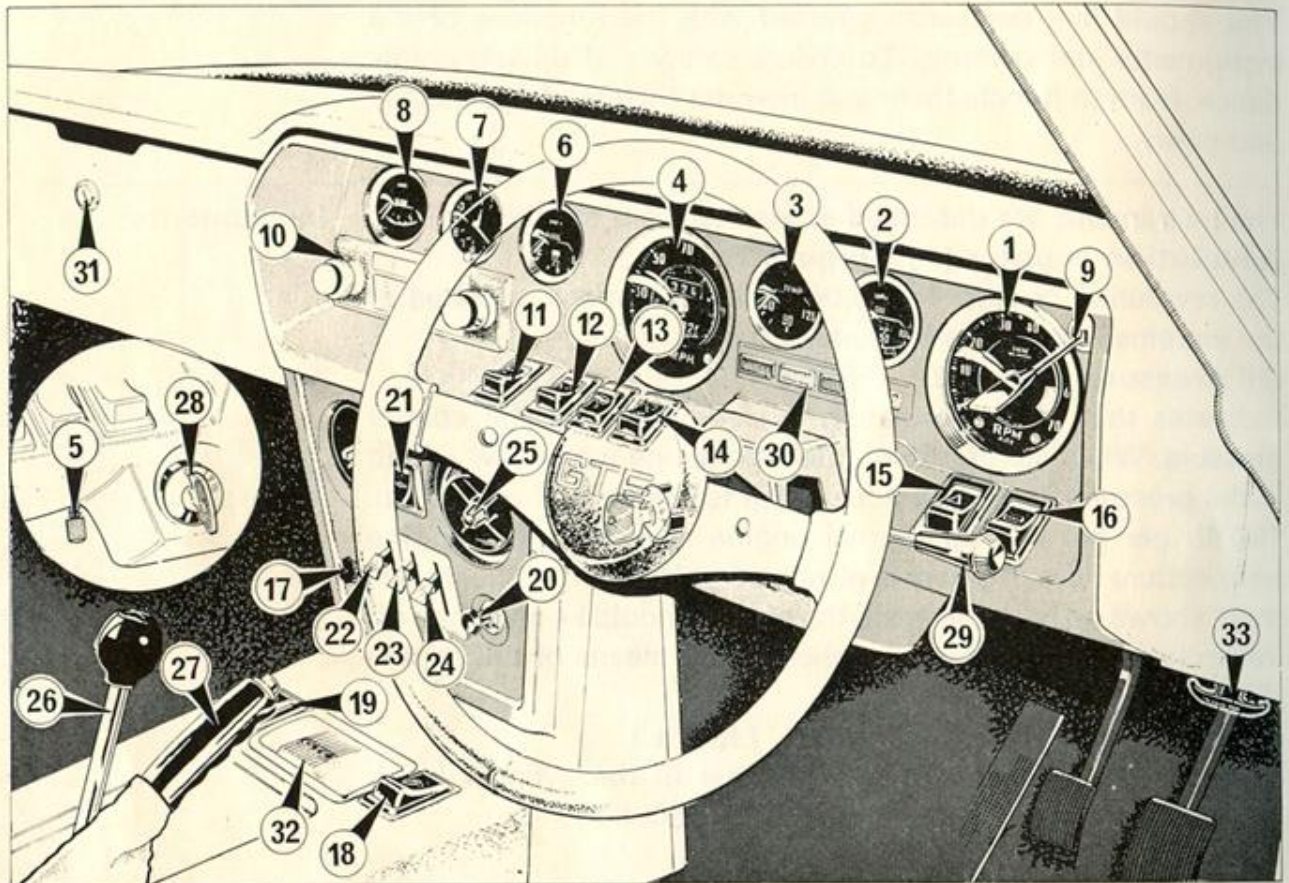

Figure 1 Fascia & controls
Revolution counter (1) Figure 1
Oil pressure gauge (2) Figure 1
Water temperature gauge (3) Figure 1
Speedometer (4) Figure 1
The speedometer is calibrated up to 140 mph and incorporates a kilometre scale. Also included in the meter is a total mileage indicator (odometer), and an indicator showing the mileage covered on an individual journey. The latter is re-set to zero by a knurled trip knob located below the speedometer on the underside of the instrument panel. (5) Figure 1.
Fuel gauge (6) Figure 1
Clock (7) Figure 1